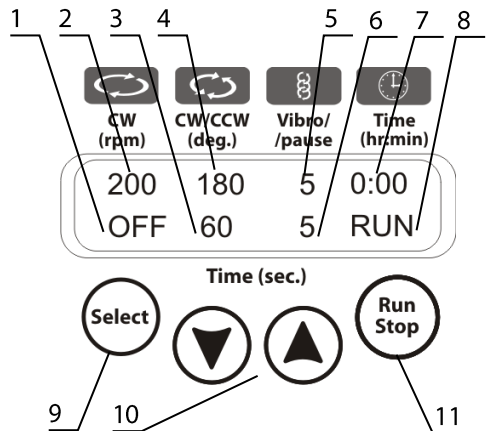

Figure 3. Control panel
- Upper line: rotation speed (fig. 3/2), reciprocation angle (fig. 3/4), vibration angle (fig. 3/5), overall timer (fig. 3/7);
- Lower line: rotation, reciprocation and vibro timers (fig. 3/1, 3/3 and 3/6), status (STOP, fig. 3/8).
- 5.5. Press the **Run Stop** key (fig. 3/11) to start the program.
- 5.6. The stirrer motion will begin and the corresponding indication, RUN (fig. 3/8) and the changing time values (fig. 3/1, 3/3, 3/6 and 3/7) are be shown on the display.
- 5.7. If the overall operation time is not set and the Time indicator (fig. 3/7) shows 0:00, pressing the **Run Stop** key will start continuous operation of the unit until the Run Stop key is pressed again.
- 5.8. If the operation time is set then the unit will stop after the set time interval elapses. Flashing indication STOP (fig. 3/8) is shown on the display and a repeating sound signal for the end of operation is heard. Press the **Run Stop** key to stop the signal.